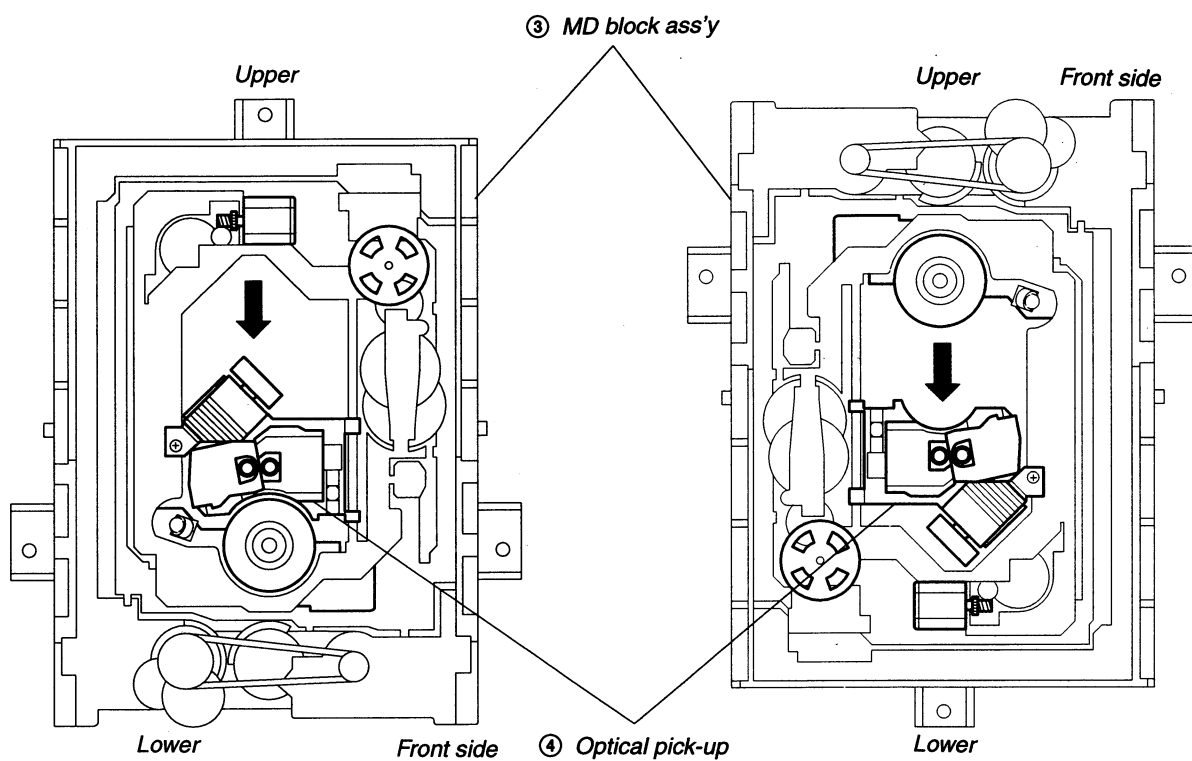

Fig. 9
- 3) Raising the MD block ass'y ③ 90° with the side down, confirm that the optical pick-up ④ falls by self weight. (See Fig. 9)
- 4) Further, with the front side of MD block ass'y ③ up, confirm that the optical pick-up falls by self weight.